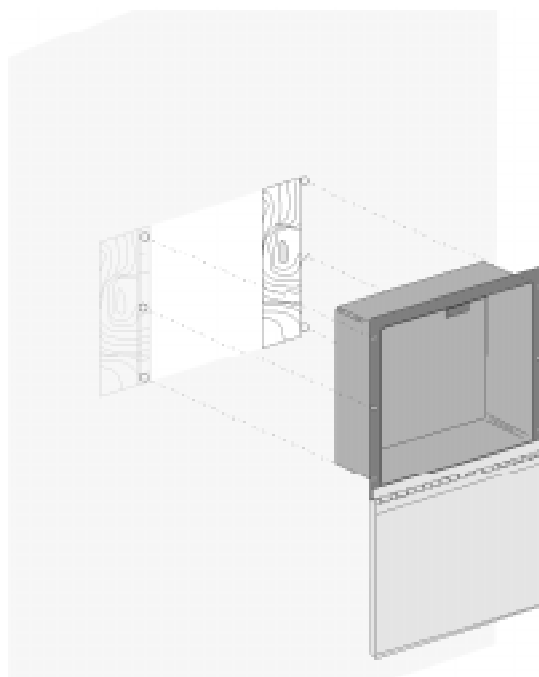

Figure 3-5: Flush Mounting
3. Screw the back box to the stud on one side and the shims on the other. Three holes are provided in each side flange of the back box (see Figure 3-5).